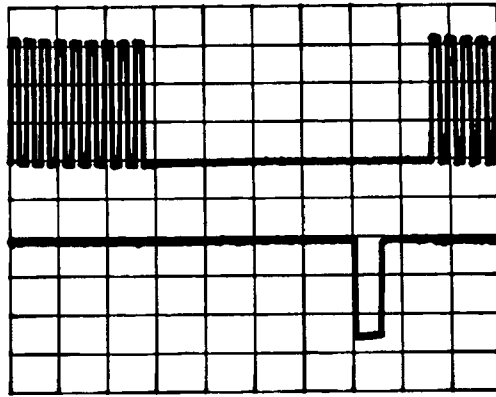

Figure 8-31. XA2A11A-30, NCLK 3
7. Connect channel 2 of the oscilloscope to XA2A11A-30, NCLK 3. The waveform should be as shown in figure 8-31.